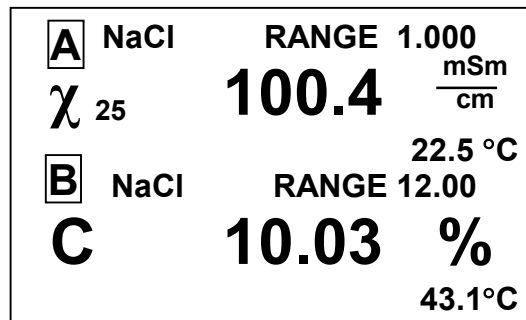

Fig. 1.7
- dual channel (A and B) measuring mode screen is as shown in Fig. 1.7.